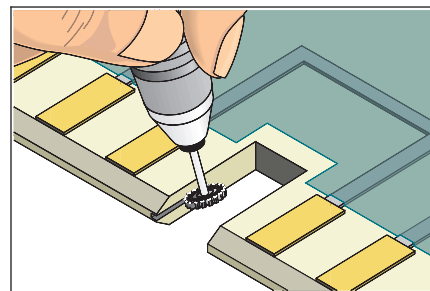

Figure 2 Cut a groove into both sides of the key slot.
4. Install carbide saw into the hand held drill. Set the speed to maximum and machine a groove in the edge of the printed wiring board where the new base material will be installed. The groove must be centered in the edge to ensure that the new piece will fit properly. The groove width should be approximately 1/3 of the printed wiring board thickness. The groove depth should be approximately double the groove width. (See Figure 2.)